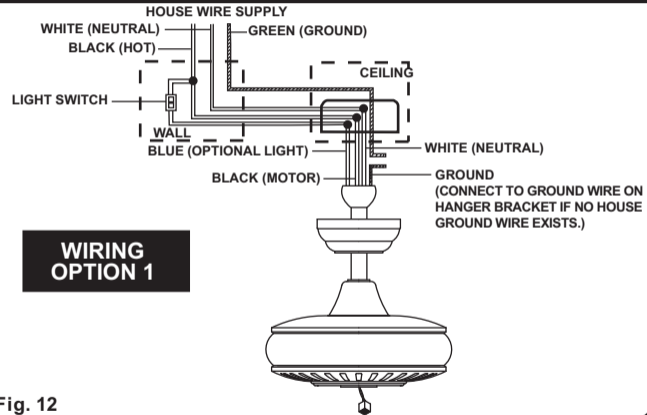

Fig. 12
**Step 3.** Figure 12 & 13 Illustrate the wiring connections using optional wall unit. (Available at your Minka-Aire® Retailer.)